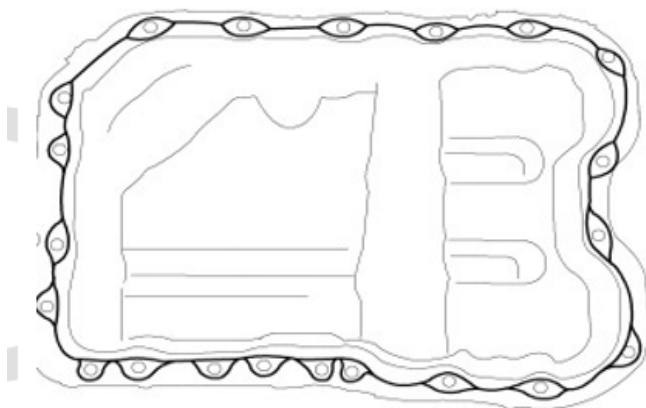

Figure 12 – Oil Pan Sealant Application
13. Apply a 2 mm bead of Mopar® Engine Sealant RTV Silicone Rubber Adhesive or equivalent around the **NEW** oil pan as shown (Figure 12).